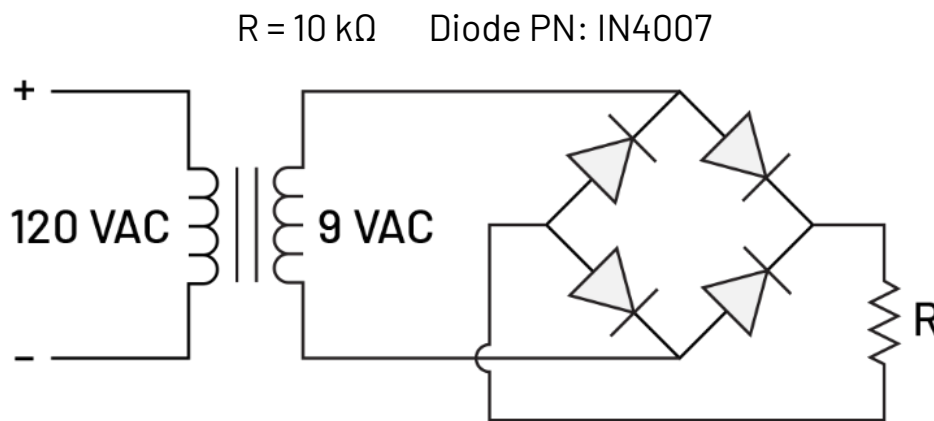

Figure 1. Bridge rectifier circuit diagram.
1. Build the half wave rectifier circuit shown in Figure 1. using the corresponding resistor value. When placing the diode, make sure the polarity of the diodes matches the schematic in Figure 1. On the diagram, trace the current path for when the input sine wave is positive and trace another path for when it is negative.
3. Remove the channel 1 probe from the output of the transform to the load resistor (R). Note: because the probe grounds are tied together, the input and out cannot be probed at the same time without the use of a differential probe. Observe the rectifier output on the scope. Compare to what was shown when the output of the transformer was probed. This rectifier is rectifying a 60 Hz input, would this rectifier work at higher frequencies?